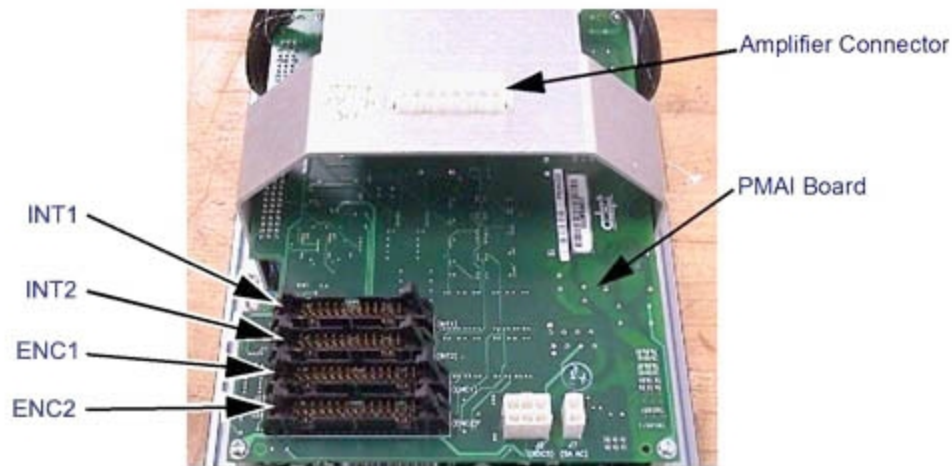

Figure 8-3. Connectors on AIB/eAIB Chassis and PMAI/ePMAI Board (AIB Shown)
5. Connect the white amplifier cable (motor power) to the amplifier connector located on the chassis bracket. See Figure 8-3.